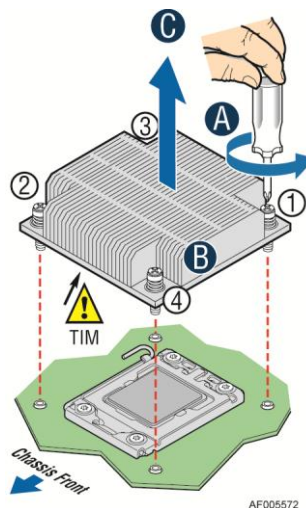

Figure 29. Removing Processor Heatsink
1. Remove the processor heatsink; see Figure 29